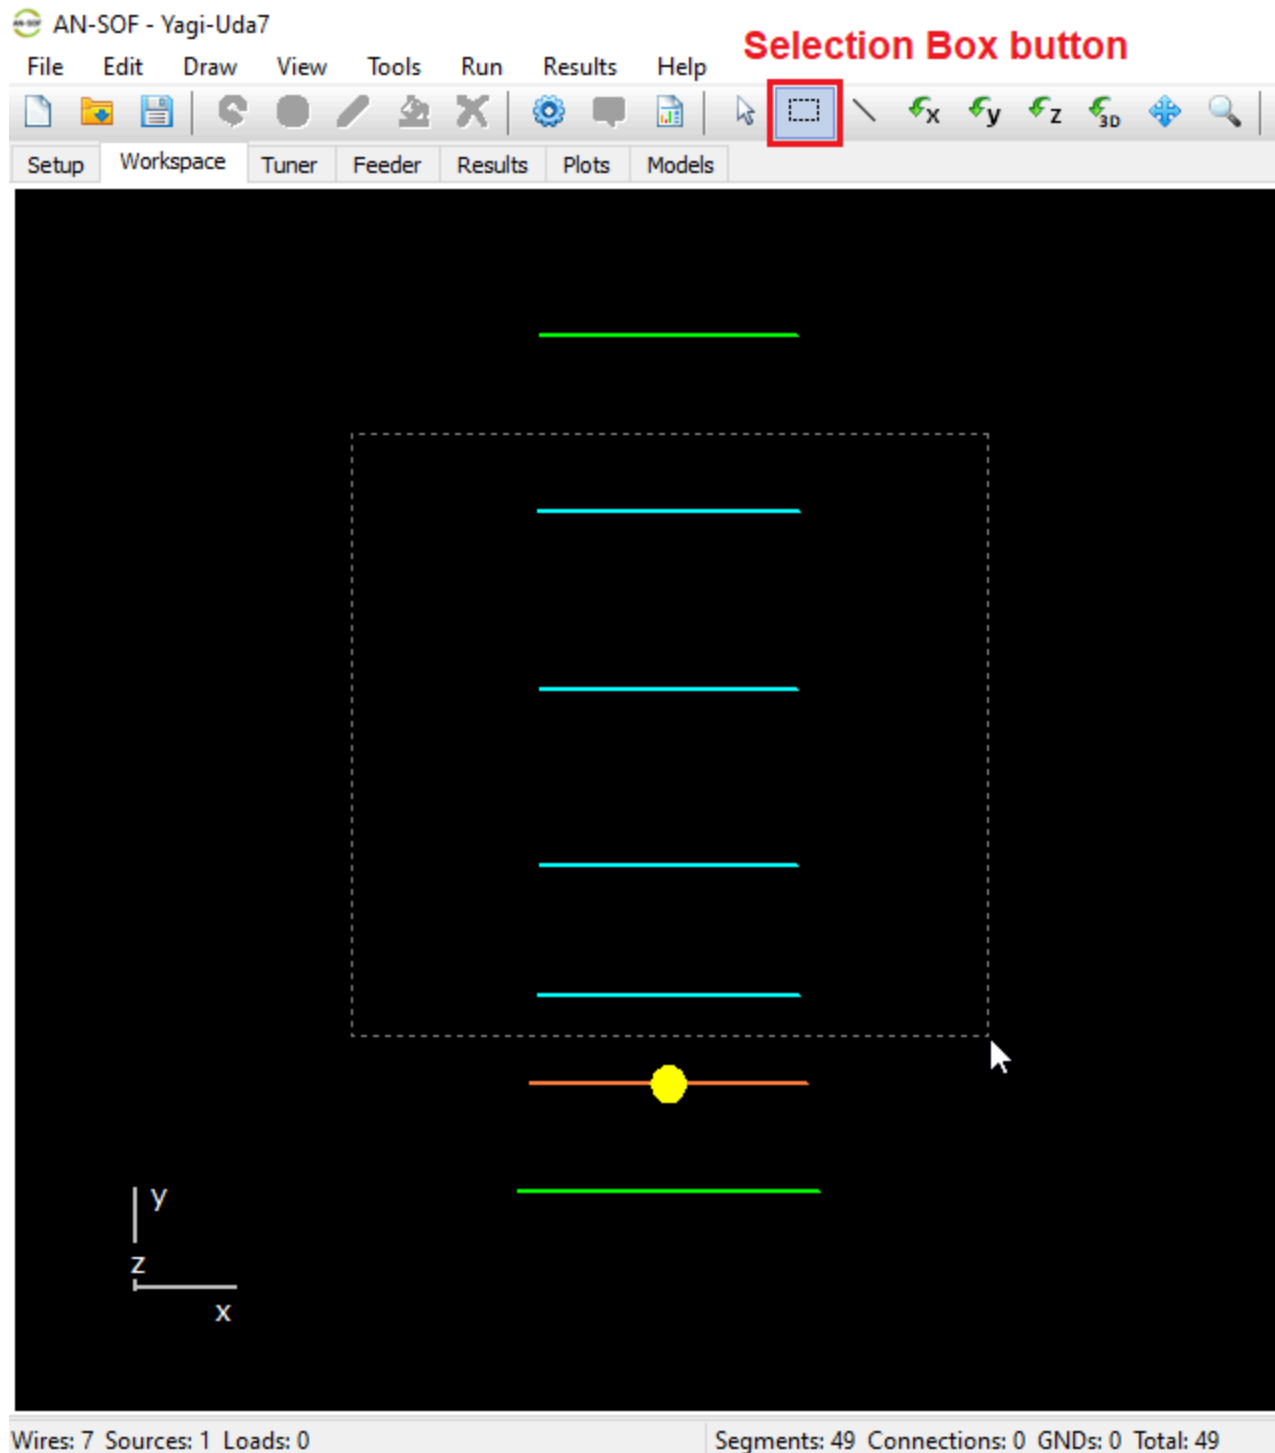

Fig. 1: Selecting multiple wires using the Selection Box.
- **Draw the Box:** Left-click and drag in the workspace to encompass the grid or surface. Selected wires will turn **light blue** (see **Fig. 1**).